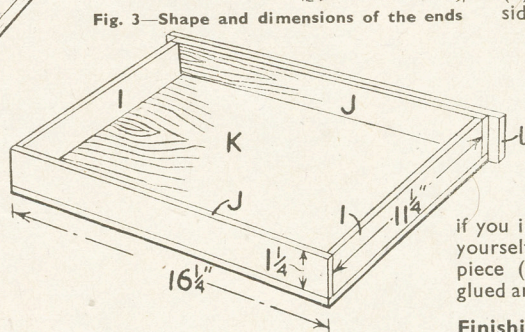

Fig. 5—How the drawer is made
The drawer is first made up as a shallow box of $\frac{1}{4}$ in. material and to the measurements shown in Fig. 5. The short sides (I) are glued and pinned, with light fretpins, between the longer pieces (J). The floor (K) can be of plywood or composition board $\frac{1}{4}$ in. thick. It will measure 16 $\frac{3}{4}$ ins. by 11 $\frac{3}{4}$ ins. It could also be constructed from two or three narrow boards to make up the total 11 $\frac{3}{4}$ ins., so long as they are securely pinned to the sides.